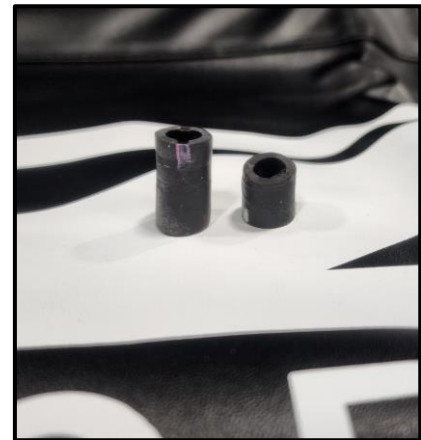

Figure 8
b. Trim **5/8in** off on Left Hand Side, as shown below in *Figure 8*.